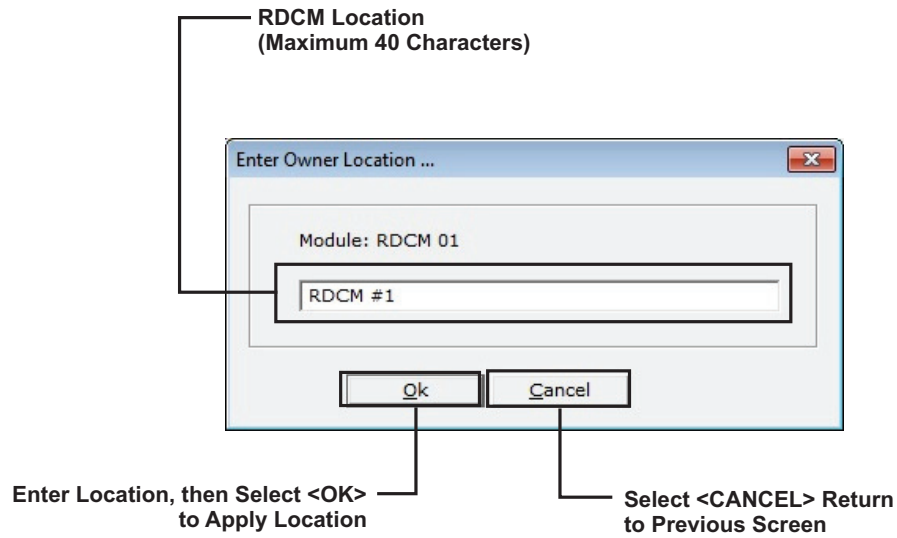

Figure 2-41. RDCM Location Screen
2. Enter the range of either RDCM(s) or ATM(s) being used, then click <OK>. Figure 2-41 displays (if ATM is being used, the dialogue in the screen reflects ATM).